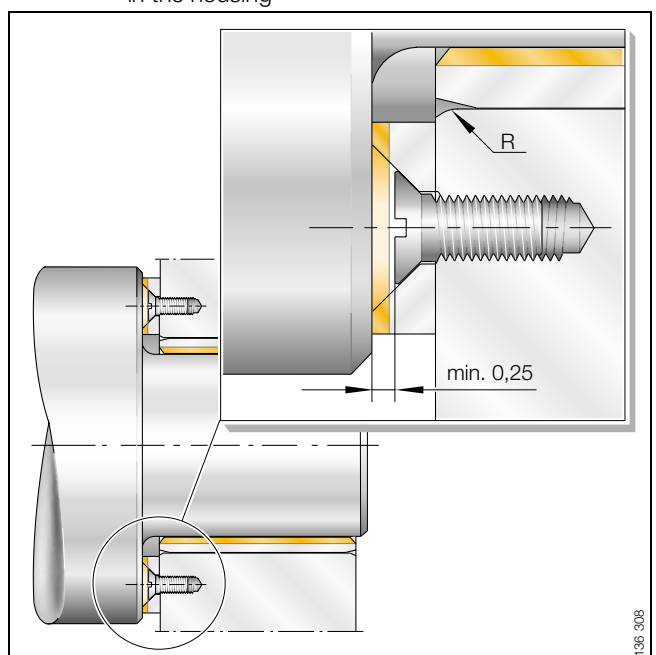

Figure 12 · Location of a PAW thrust washer without a recess in the housing
- location must be provided by means of several dowel pins or screws (Figure 12)